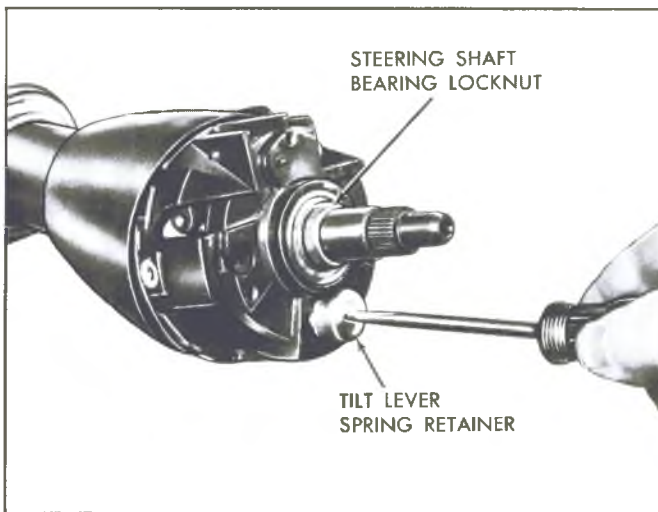

Fig. 91—Removing Tilt Spring and Retainer
5. Install the tilt release lever and place the column in the full "up" position. Remove the tilt lever spring and retainer using a screw driver that just fits into the slot opening (fig. 91). Insert the screw driver into the slot, push in approximately 3/16", rotate clockwise approximately 1/8 turn until the retainer ears align with the grooves in the housing and remove the retainer and spring.